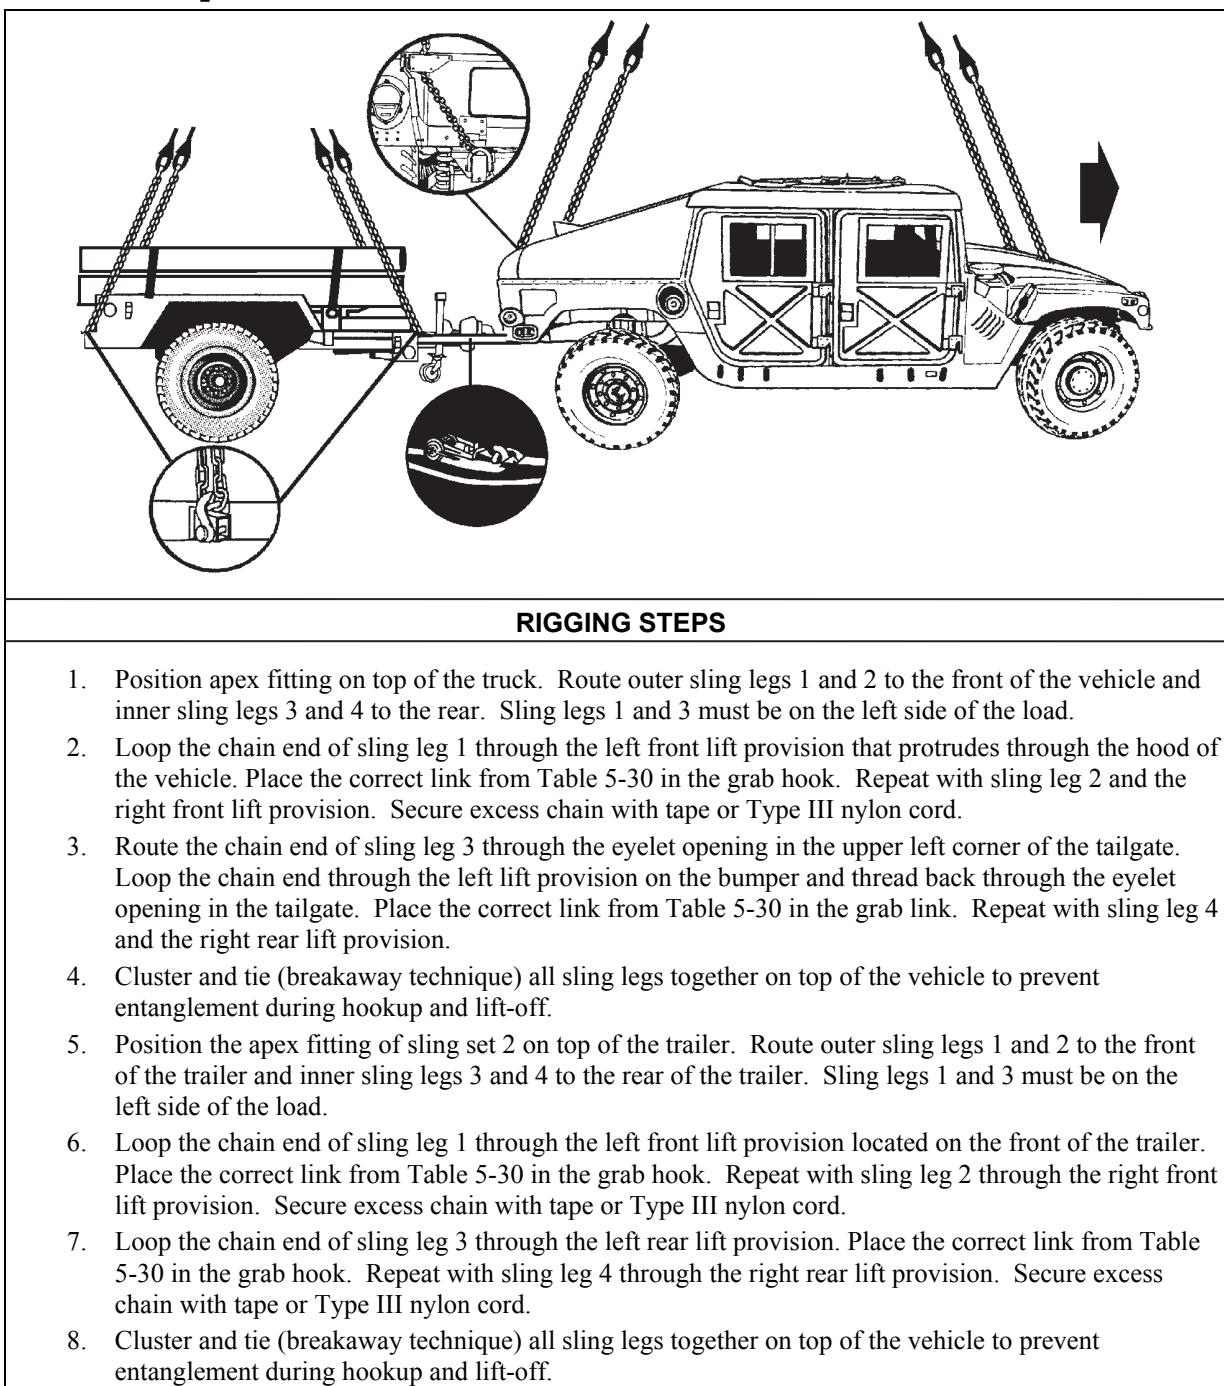

Figure 5-30. 1025A2 Truck, 1 1/4-Ton with Line of Sight Anti-Tank Loader Crane and High Mobility Resupply Trailer
- **Rigging.** Rig the load according to the steps in Figure 5-30.